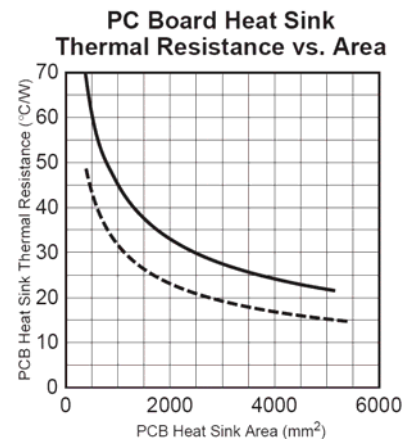

Figure 4. Excerpt from the LDO Book
- $R_{\theta_{CA}} = 53^\circ C/W$ Read from Graph in Figure 4